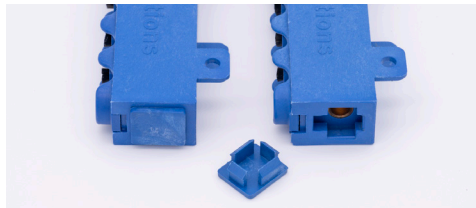

Figure 11A - Snap type
Step 2 – Once the last iMOD section is added, push the end cap into the receiver end of the last iMOD section. It will “snap” into place with proper pressure. Refer to FIGURE 11A OR 11B as appropriate.